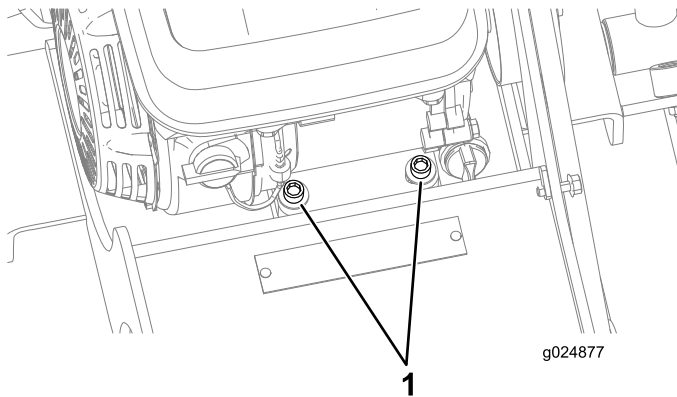

Figure 27
2. Loosen the 2 hex-socket bolts (5/16-24 x 1.75 inches) that secure the front of the engine (Figure 27).
7. Tighten the 2 hex-socket bolts (5/16-24 x 1-3/4 inches) that secure the front of the engine to 12.5 to 16.4 N·m (9.2 to 12.1 ft-lb) as shown in Figure 27.